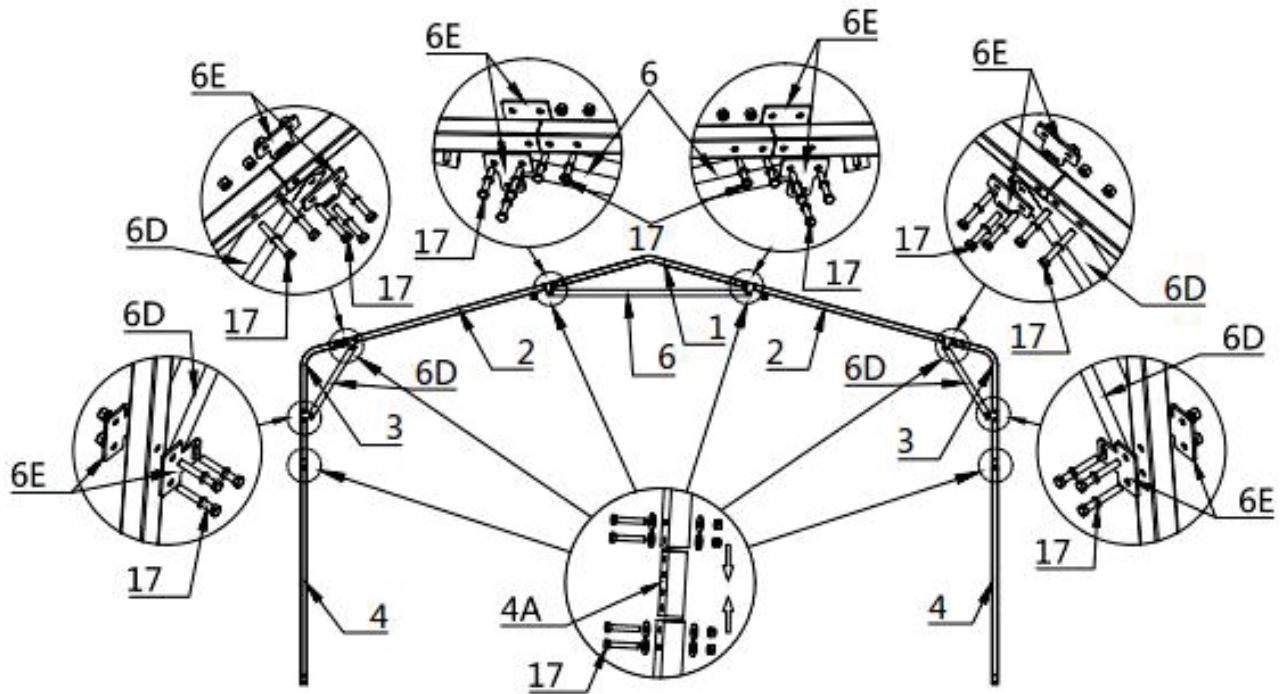

Figure 4
- Parts used to install (5) middle trusses in this step (refer to figure 4).